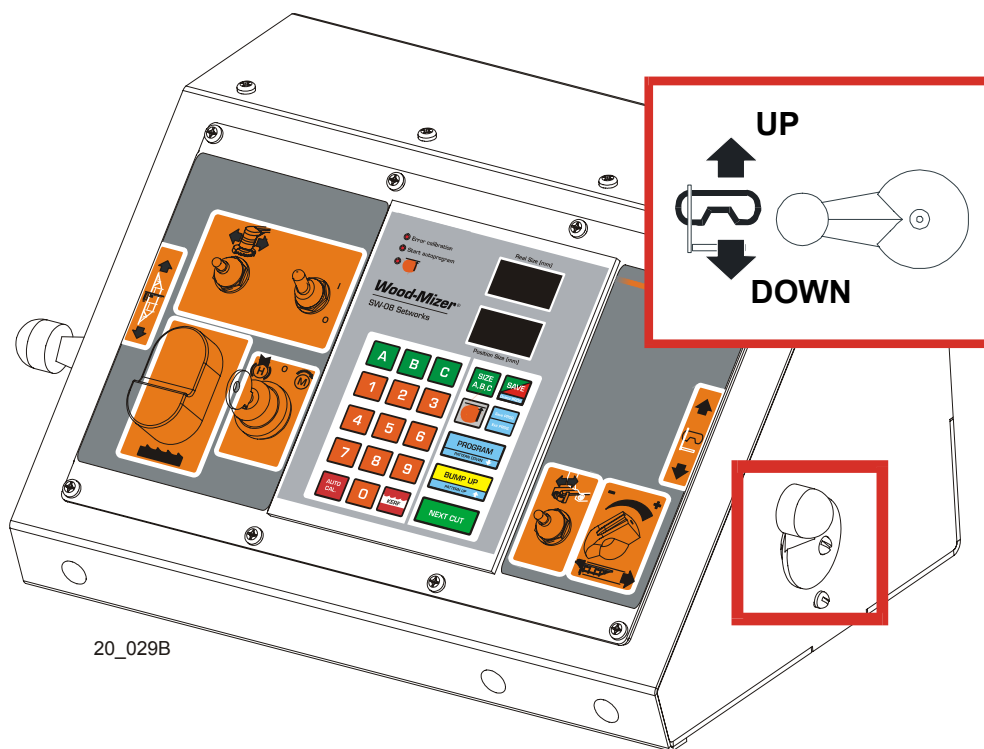

FIG. 2-11
**See Figure 2-11.** The up/down switch is located on the right side of the control panel. Push the switch up to raise the cutting head; push the switch down to lower the cutting head. Hold the switch in